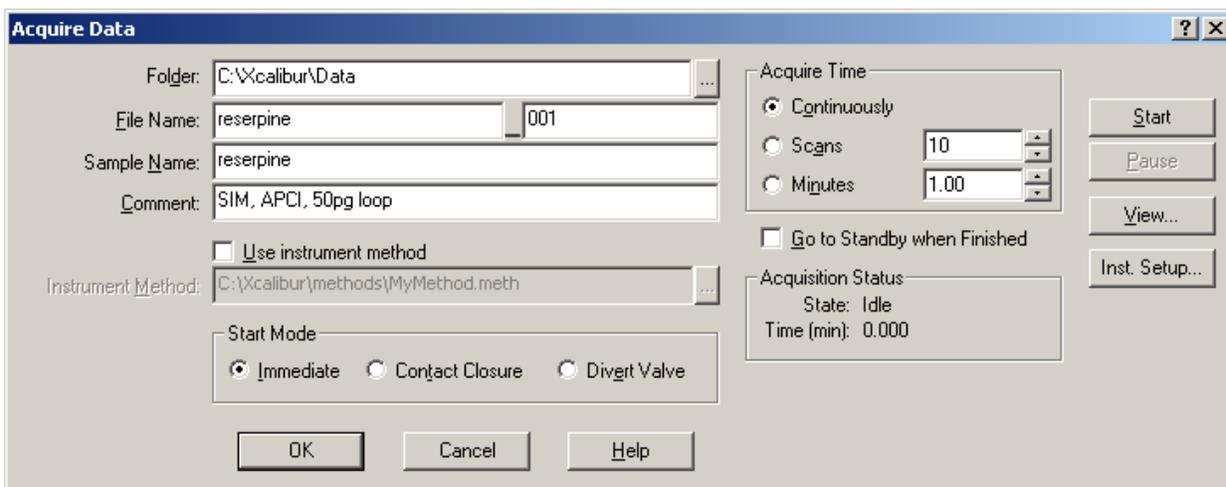

Figure 66. Acquire Data dialog box, showing the acquisition status of the raw data file
5. On the Control/Scan Mode toolbar, click **Acquire Data** to open the Acquire Data dialog box. See Figure 66.